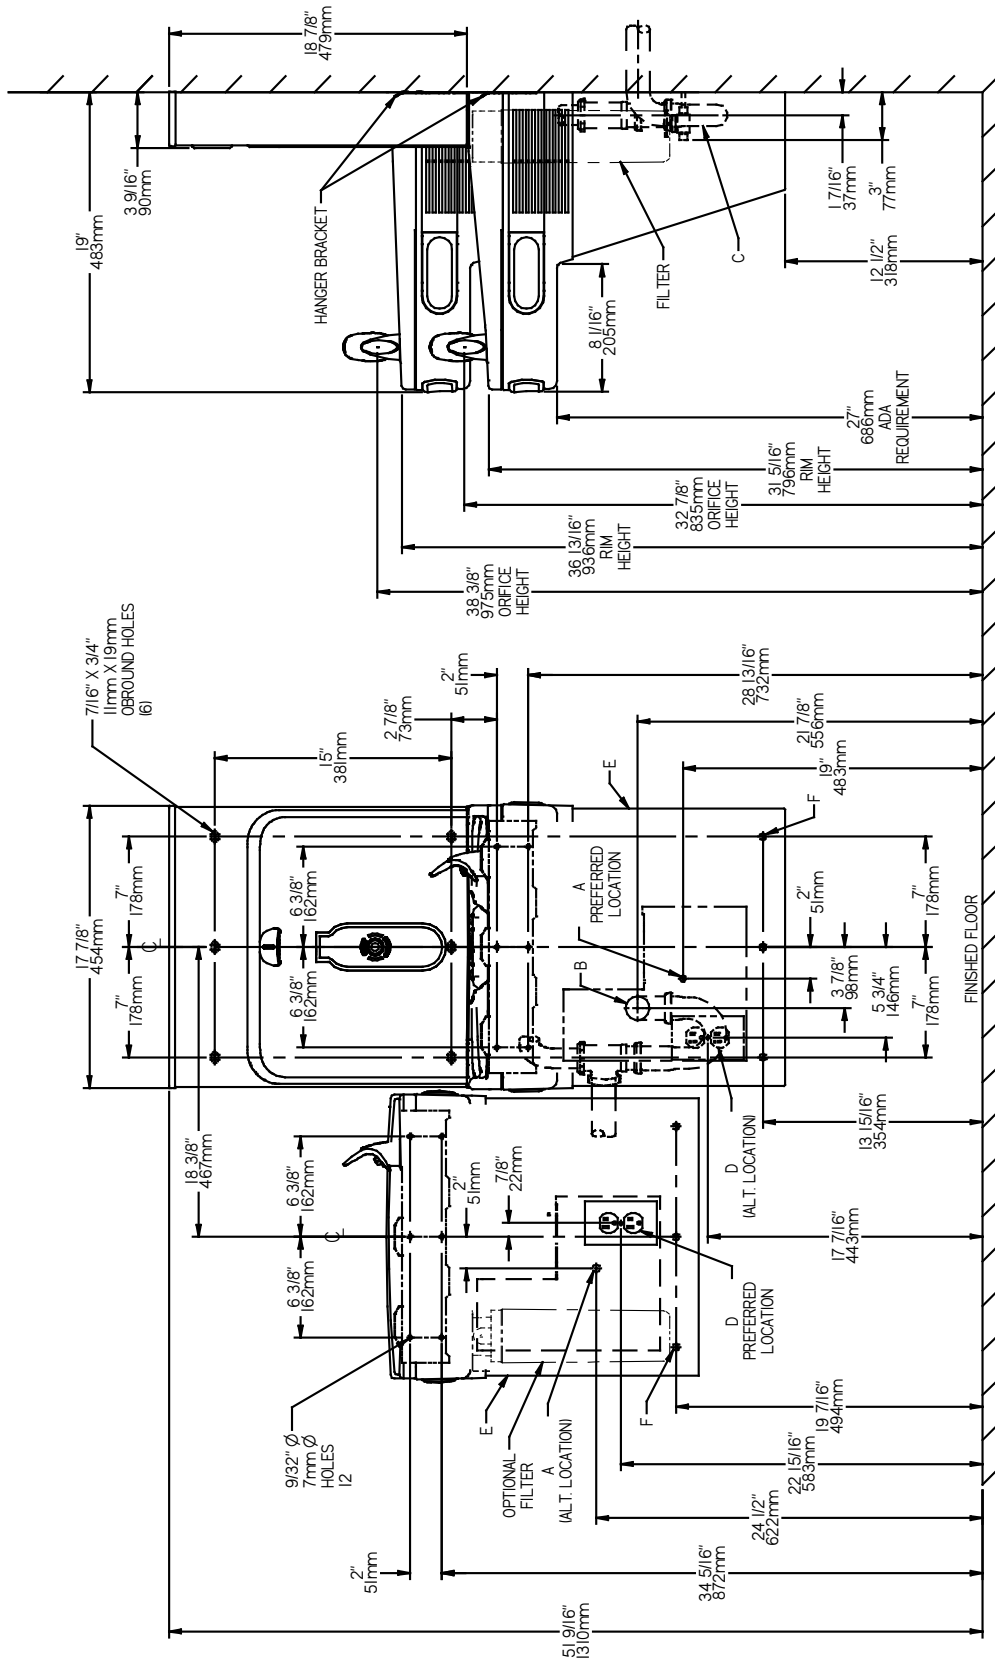

FIG. 2
- 1) Remove hanger brackets fastened to back of cooler by removing one (1) screw.
- 2) Mount the hanger brackets as shown in Figures 2, 3, 4 or 5.
- 3) Hang the cooler on the hanger bracket. Be certain the hanger bracket is engaged properly in the slots on the cooler back as shown in Figures 2, 3, 4 or 5.
- 4) Remove the four (4) screws holding the lower front panel at the bottom of cooler. Remove the front panel by pulling straight down and set aside.